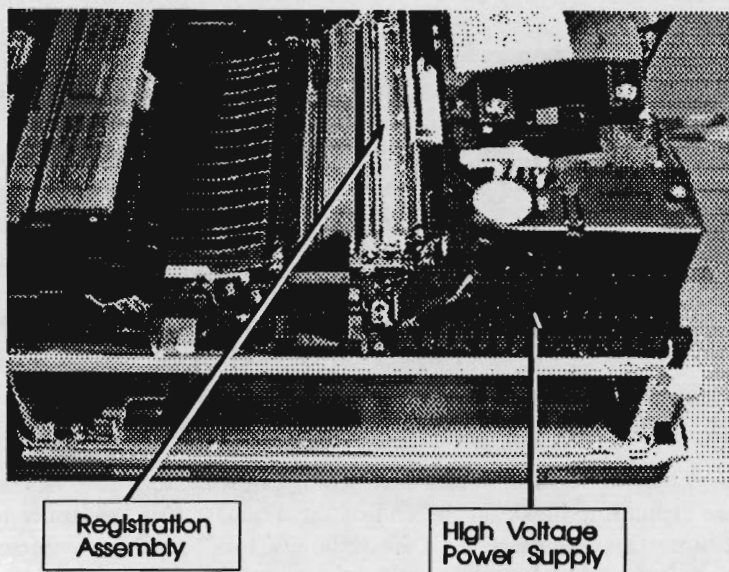

Figure 6-36. Registration Assembly
2. Remove the (4) Registration Assembly screws. Note the position of the bronze grounding block (see Figure 6-36).
3. Remove the (2) screws on the underside of the Registration Assembly securing the Separation Pad.
2. Remove the (2) screws securing the front of the assembly and the (2) screws securing the Transfer Guide Plate at the rear of the assembly.
3. Lift the Registration Assembly up and out (see Figure 6-36).
When replacing the Registration Assembly, be sure to rotate the bronze grounding block on the end of the Transfer Corona Roller to its full counterclockwise position (the "3:00 O'Clock" position as viewed from the assembly's left end) and position it properly on top of the grounding spring as shown in Figure 6-36. Failure to position this block properly may result in intermittent hardware indications. Be certain to replace the ground lug on top of the registration assembly at the left front. Finally, install the transfer guide plate.